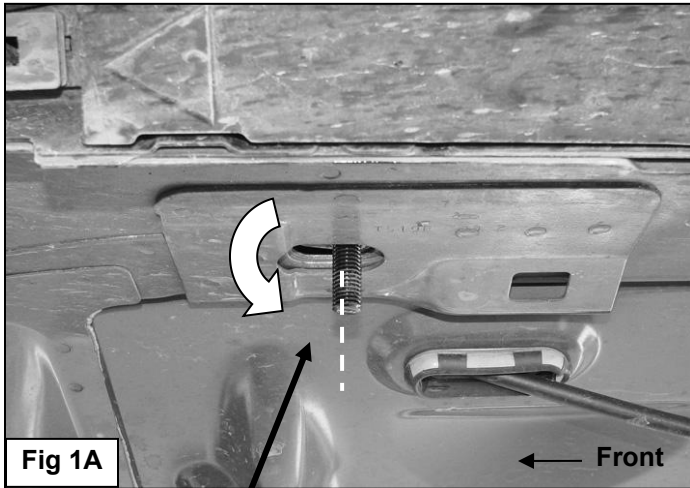
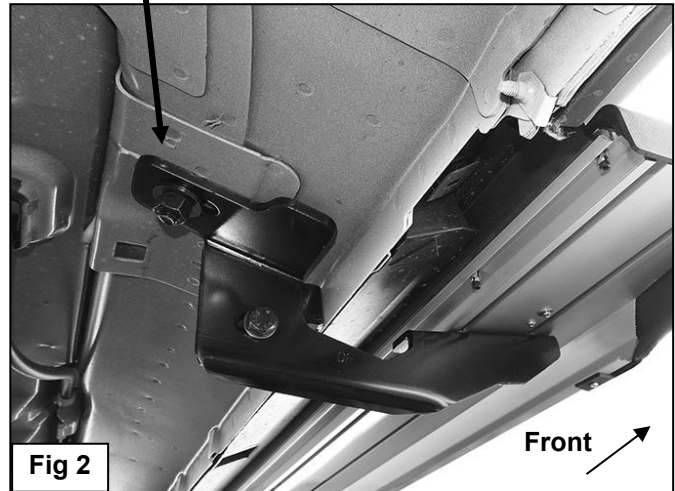

Fig 1A
Fig 2
- Start installation under the driver side of the vehicle. Select (1) 12mm x 35mm Small T-Bolt Plate and insert it into the factory oval hole in the floor panel, **(Figures 1A & 1B)**. Rotate the Bolt Plate 90-degrees so that the plate is across the oval hole. Select the driver side front Mounting Bracket. Hang the Bracket from the Bolt Plate with (1) 12mm Flat Washer, (1) 12mm Lock Washer and (1) 12mm Hex Nut, **(Figure 2)**. **NOTE:** Make sure that the mounting flange on the front Bracket is lined up properly with the indent in the floor panel. The front Mounting Bracket must sit flat against the floor panel. Do not tighten hardware at this time.